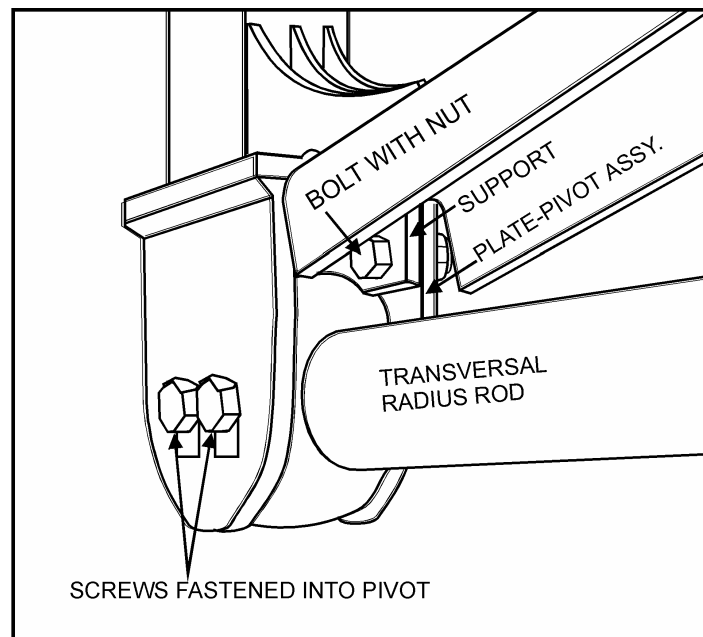

FIGURE 7
1. Identify just below the reinforcements previously welded, the two bolts (with nuts) fastening the plate-pivot assembly of transversal radius rod to its support (refer to figure 7).